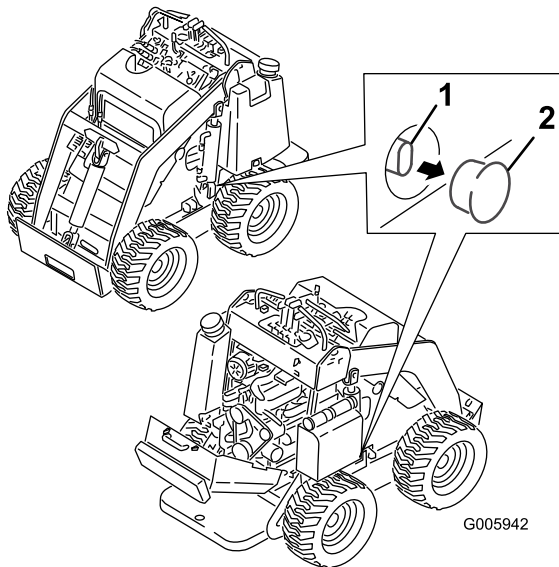

Figure 18
2. Remove the plug covering each tow valve, located under each fuel tank (Figure 18).